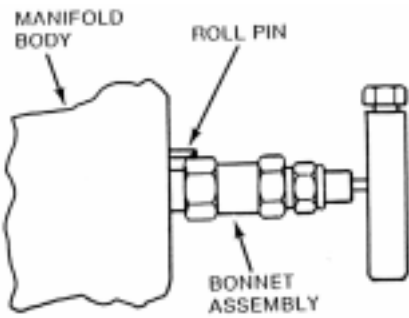

Figure 9. Bonnet Assembly and Roll Pin Identification
2. Refer to Figure 9. Pull the roll pin out of manifold body.